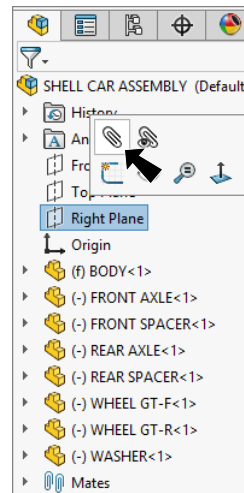

Fig. 10
Step 3. Click **Right Plane**  in the Feature Manager and click **Mate**  on the context toolbar, **Fig. 10**.